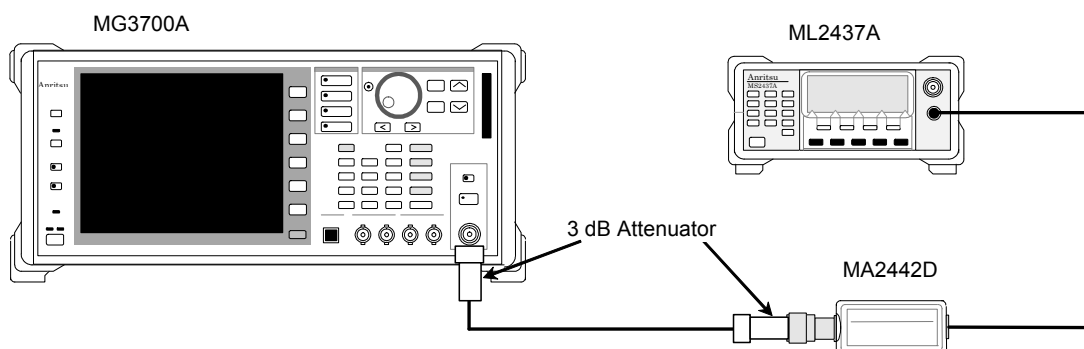

Figure 6.3.1-1 Signal Generator Calibration Setup (CW)
1. Setup the instruments as shown in Figure 6.3.1-1.
2. Output a CW 399.99 MHz signal from the Vector signal generator (SG) at a level of +6 dBm